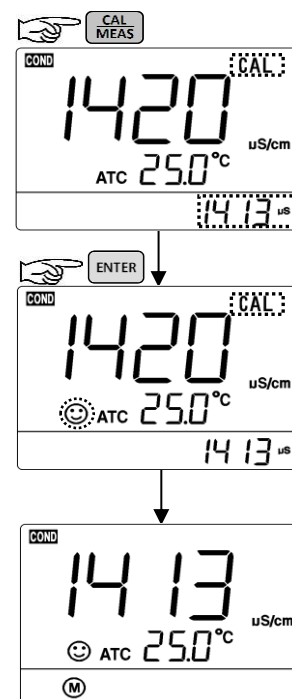

Figure-7
4.4.3. When the meter locks 1413 μS , stable icon  will display on LCD. Press  key to complete calibration. “End” icon will show up and the meter will return to measuring mode and  will show up on the bottom left (see Figure-7).